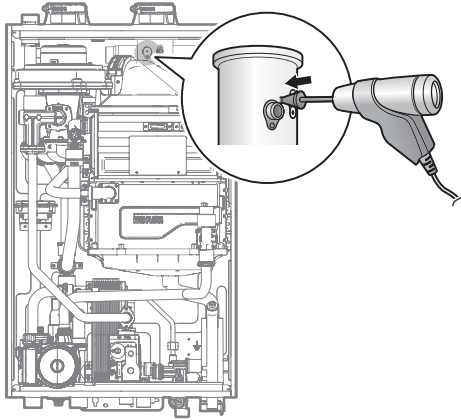

Figure 7. Insert the Analyzer
- Loosen the screw, rotate the plate and remove the gasket to access the emissions monitoring port as shown in Figure 7.
- Insert the analyzer into the port (Figure 7).